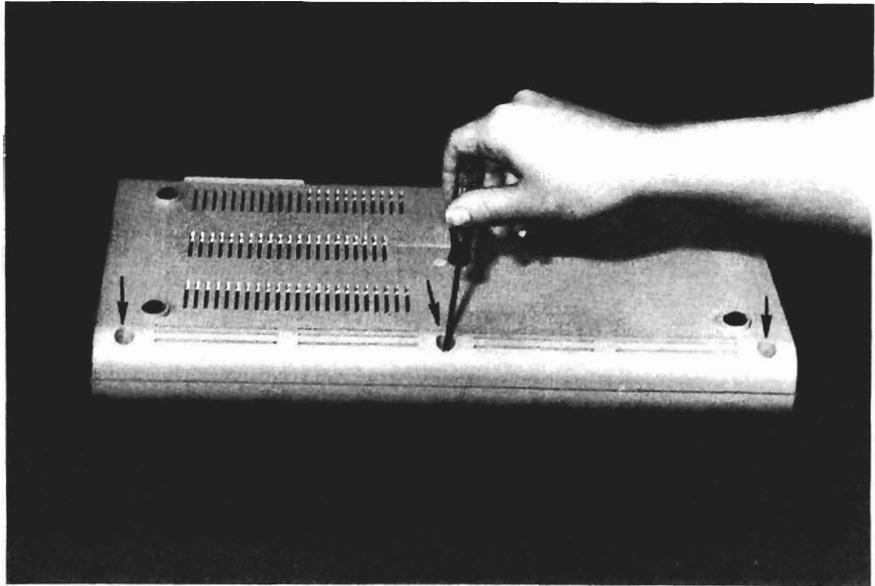

Fig. 2-4. Removing the system unit screws.
4. Remove the screws from the bottom of the system unit (Fig. 2-4).